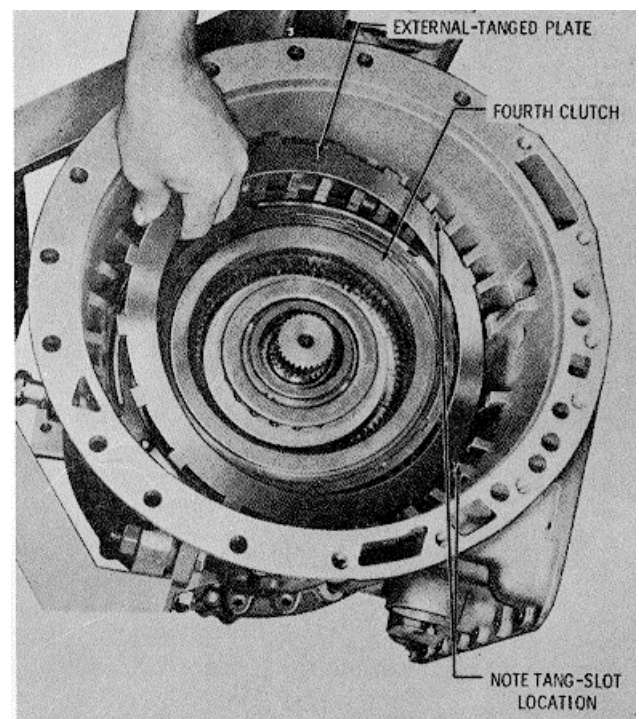

Fig. 7.32. Installing third clutch plates
(3) Be sure the bearing race at the top (front) of the clutch is in place. If not, lubricate it with oil-soluble grease and install.
(4) Install 8 third-clutch plates (fig. 7-32), beginning with a thick external-tanged plate and alternately installing 4 external tanged plates and 4 internal-splined plates. (Refer to para 7-2b(l), above.).
(5) Install the back plate. To insure proper tang to housing slot alignment, use figure 7-32 as a guide.